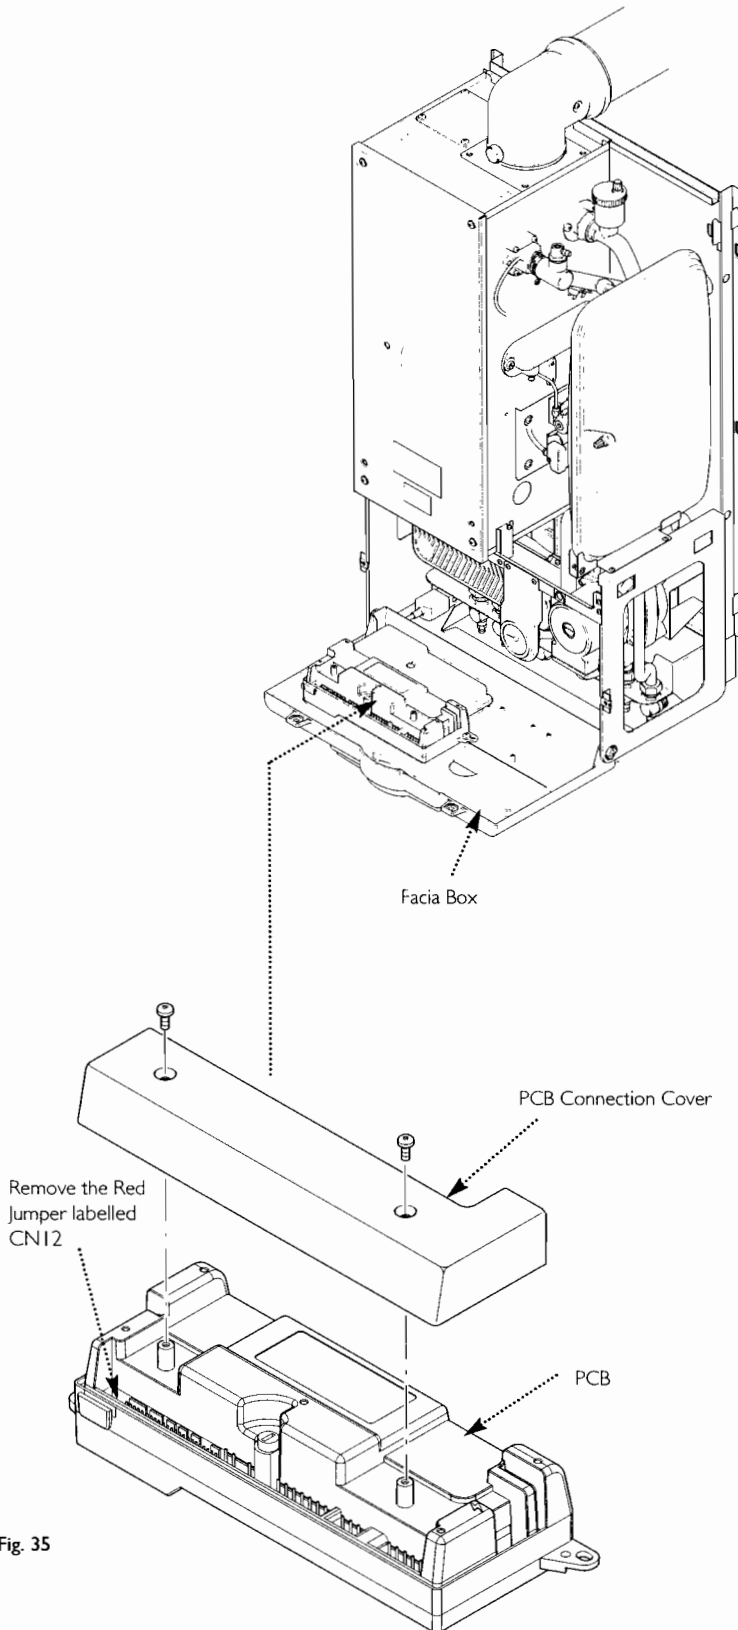

Fig. 35
10.2 Increasing Central Heating Output To 100,000 Btu/hr (Fig. 35) (Combi 133 & 100 HE Plus only)